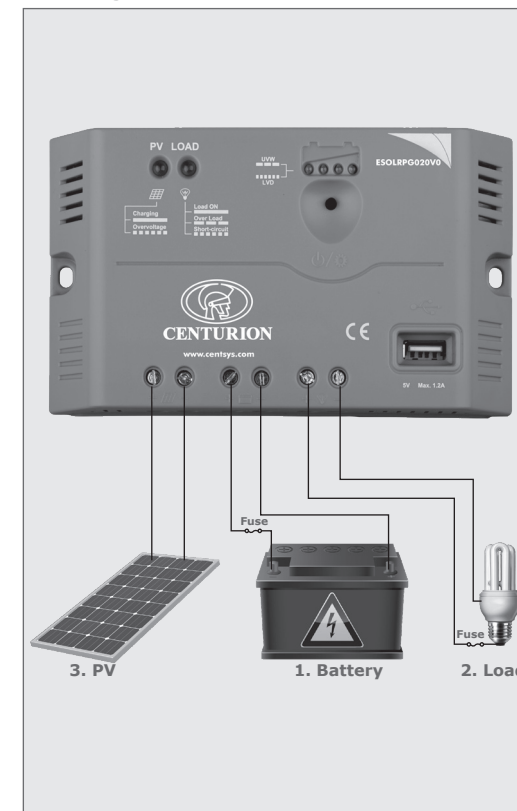

Figure 1.
1. Connect components in the sequence shown in Figure 1 above, paying close attention to the "+" and "-" symbols. Always connect the battery first.